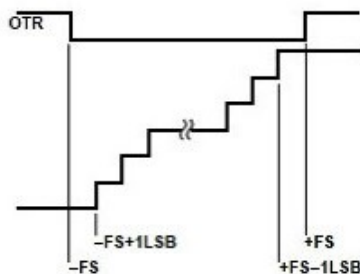

Figure 25. Output data format
The ADC's baseband region. A tradeoff exists between the complexity of this image rejection filter and the sample rate as well as dynamic range of the ADC. Each of the 3PA1030 digital control inputs, 3-STATE (OE) and STBY are reference to analog ground. The clock is also referenced to analog ground. The format of the digital output is straight binary (see Figure 25). A low power mode feature is provided such that for STBY = HIGH and the clock disabled, the static power of the 3PA1030 will drop below 5 mW.